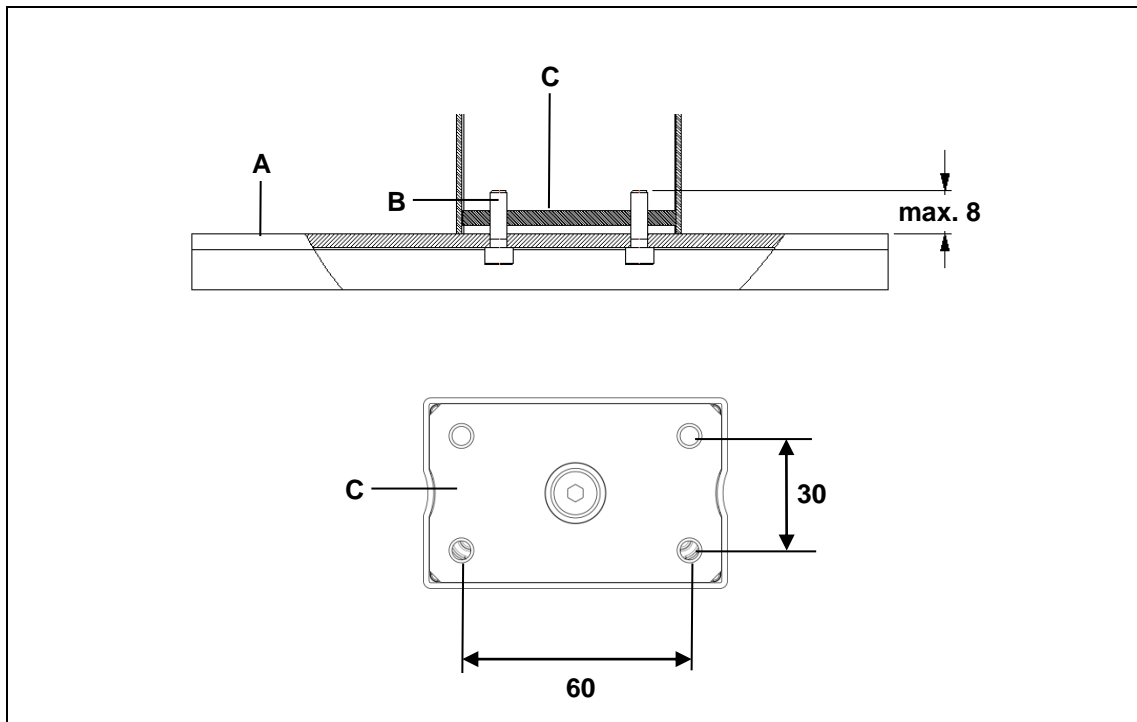
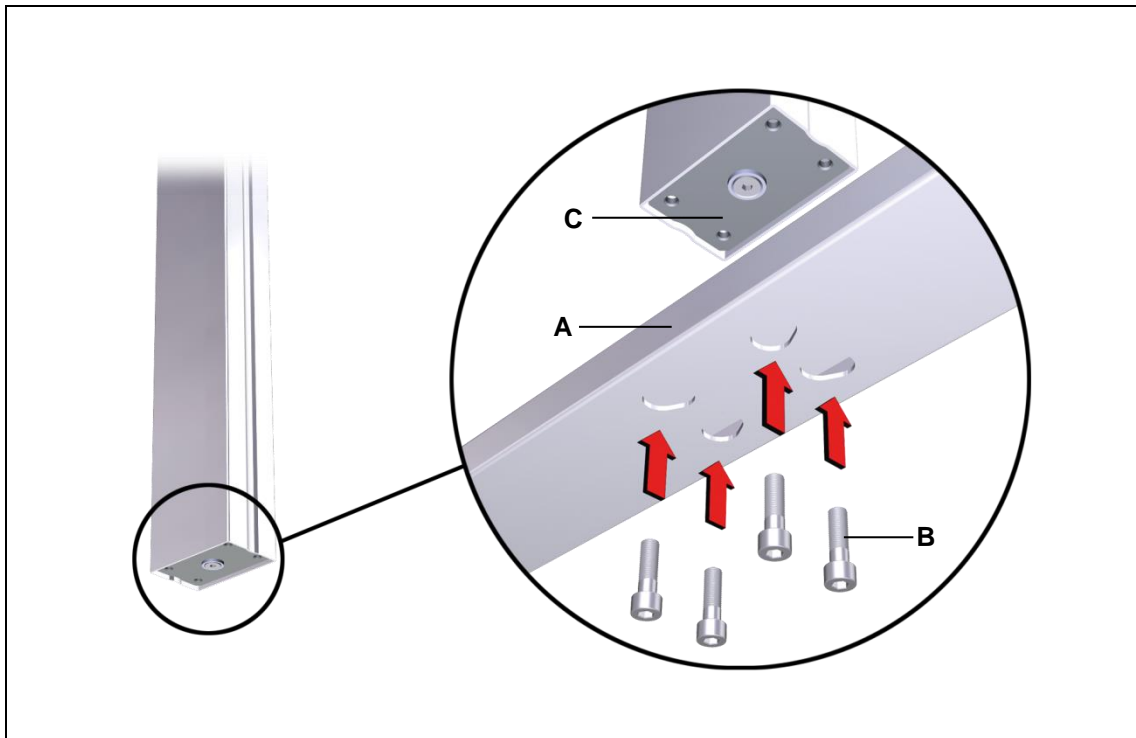

Figure 7 Mounting the desk base: (in mm)
Figure 8 Mounting the desk base
- Use M6 screws (grade 8.8), as shown in Figure 7. The tightening torque must not exceed 10 Nm.
- 1 Use four screws to attach the desk base to the foot end of the ID21 lifting column, as shown in Figure 8 (maximum tightening torque is 10 Nm). The mounting dimensions are shown in Figure 7.